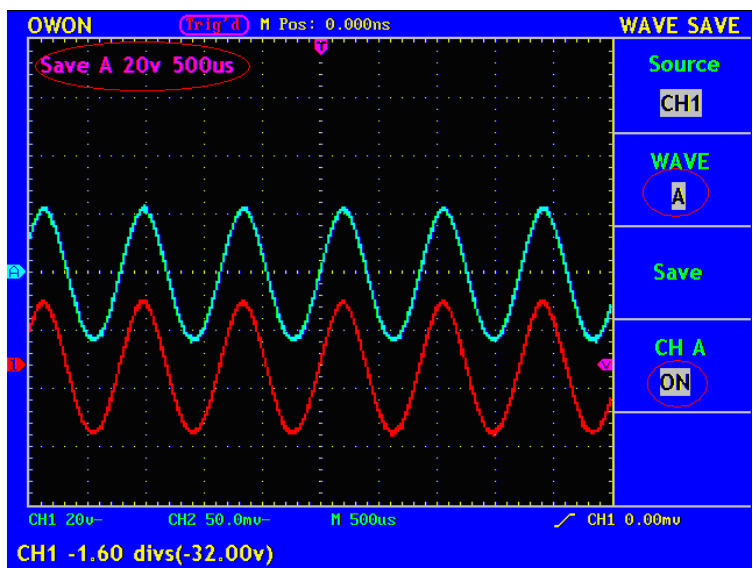

Fig.45 Wave SAVE/RCL
- Press F2 next to Wave to select from one of four locations, the CH(X) would show the location you've chosen.
- Press F4 next to CH(X) to change to ON. Now you will see a stored waveform displayed on the screen with whatever waveforms are already on there.
- Example to save/recall a waveform from location A. Fig.45.